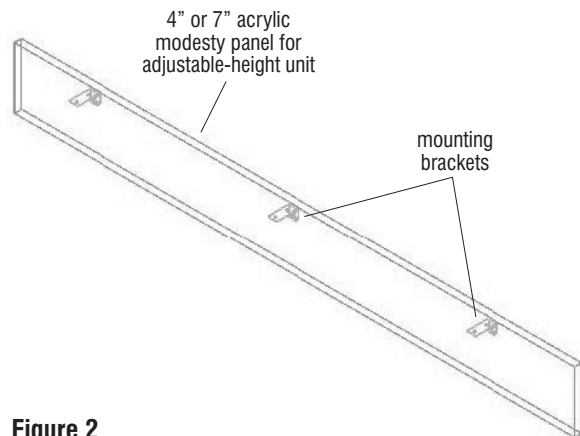

Figure 2
1. Insert a threaded cap into one of mounting holes on the non-user side of the acrylic modesty panel for adjustable-height units. Orient a mounting bracket squarely to the user side of the panel, with the short end of the bracket against the back of the modesty panel, and the long end at the top of the panel as illustrated. Align the mounting hole of the bracket with the back of the threaded cap. On the user side of the panel, insert a #10-32 x $\frac{5}{16}$ \" Phillips pan head screw through the bracket and into the threaded cap, then tighten to secure the bracket. Repeat this step to secure the remaining brackets to the modesty panel (Figure 2).